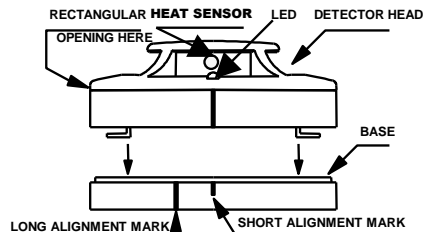

Fig. 2 Fitting detector head onto base
1. Align the components as shown in Figure 2.